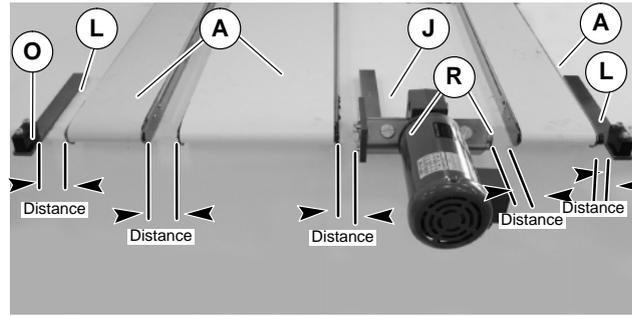
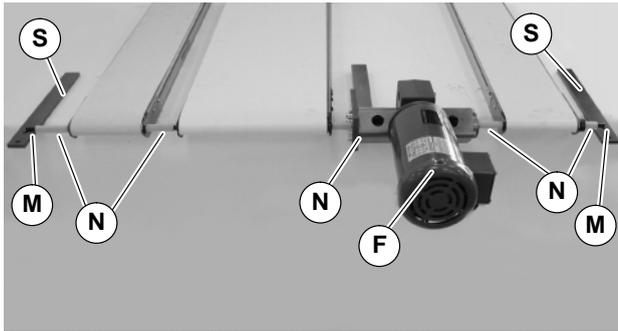

Figure 19
Figure 21
- Align conveyors between gearmotor support assembly (J of Figure 19) and bearing support assembly (L).
**NOTE:** Do not secure the conveyors (A of Figure 19) to the mounting surface.
- Cut shaft cover (N of Figure 21) into pieces to match each distance (Figure 19) minus 1.5mm.
- Slide hex shafts (M of Figure 21) through conveyors and shaft cover pieces (N) on both sides of gearmotor assembly (F) and into flex couplings.